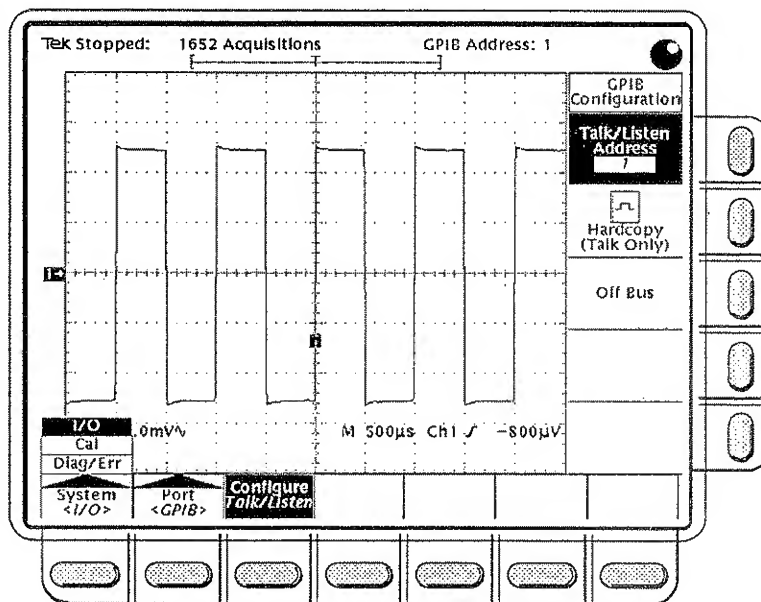

Figure 3-16: Utility Menu – System I/O
- ☐ **Step 2:** Select **I/O** from the **System** main menu pop-up (see Figure 3-16).